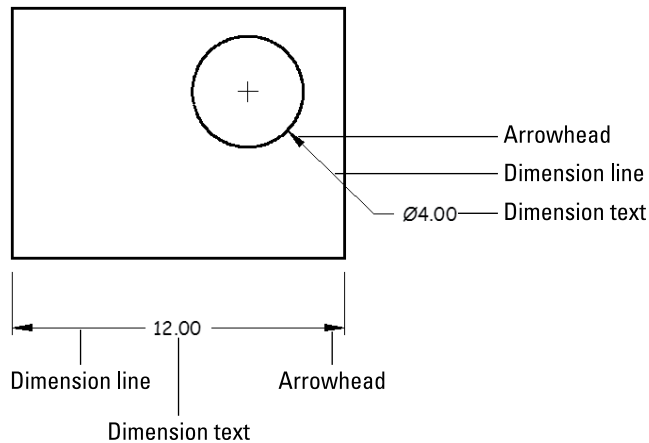

FIGURE 14-2:
If you want to be superefficient, memorize the three-letter command aliases for the dimension commands you use most often, of which DIM should top the list. Refer to upcoming Figure 14-2 to see the aliases of the most common commands.
In this section, I discuss how to set the factors that control the format and appearance of dimensions, but I start with a brief anatomy lesson. AutoCAD uses the names shown in Figure 14-2, and described in the following list, to refer to the parts of each dimension:
»» **Arrowheads:** Appear at the end or ends of the dimension lines and emphasize the extent of the dimensioned length. AutoCAD's default arrowhead style is the closed, filled type shown in Figure 14-2, but you can choose other symbols, such as dots or tick marks, to indicate the ends of the dimension lines. Don't get ticked off about it, but AutoCAD calls the line ending an *arrowhead* even when, as in the case of a tick mark, it doesn't look like an arrow.
- » **Extension lines:** Extend outward from the definition points (also known as defpoints) that you select to the dimension lines, usually by snapping to points on an object. By drafting convention, a small gap usually exists between the defpoint and the beginning of the extension line. Also by convention, extension lines usually extend just past the dimension lines; refer to Figure 14-2 for examples. AutoCAD makes dimensions look tidier by assigning fixed gap sizes and projection lengths for the extension lines, and if you need to dimension to circles or center lines, you can assign dash-dot linetypes to either or both extension lines.